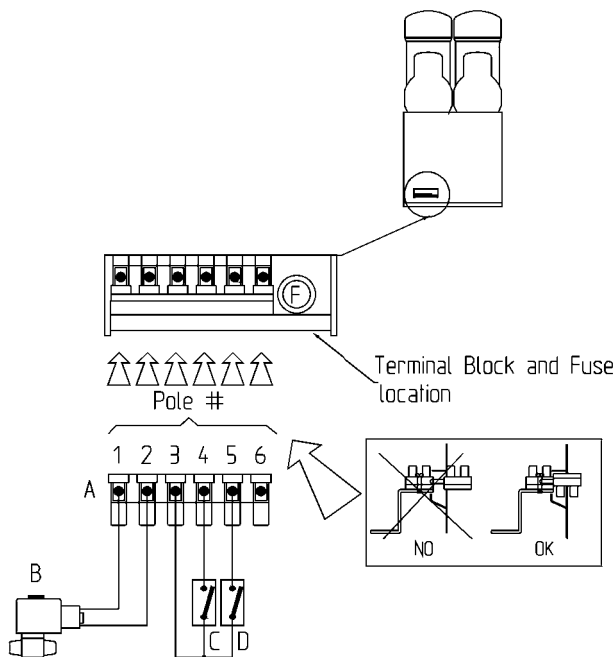

figure 19
and one Sold-out Switch each bowl (see figure 19).
- 3 - The Safety Water Line Solenoid Valve is intended to cut off the main water line (if present in the remote fill system) whenever the Autofill Device is not refilling. The Sold-out Switch (one for each bowl) disables the Autofill Device and activates acoustic and visual alarms whenever the incoming beverage is sold out. The Safety Water Line Solenoid Valve, if present, must be connected to the unit using #1 and #2 poles of the terminal block (see figure 19).
A sold-out warning light along with a buzzer (visual and acoustic sold-out alarms) are located respectively on and inside the rear cover. They can run only if an applicable Sold-out switch is connected to the terminal block (see figure 19).